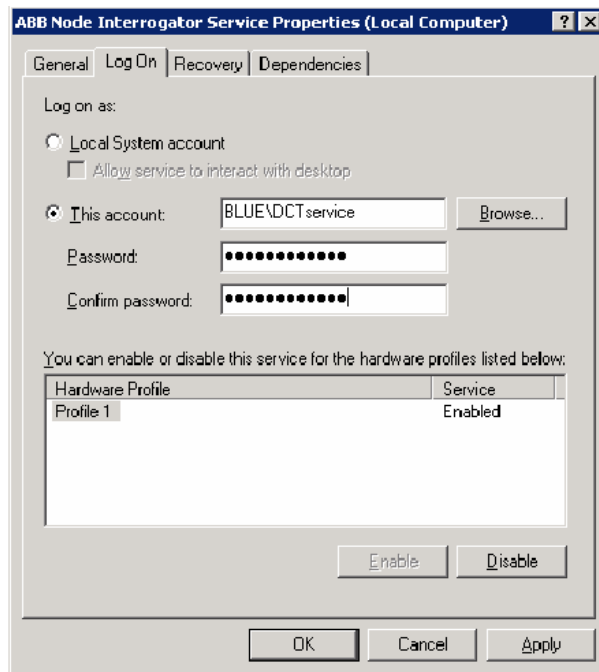

Figure 14. Modifying the ABB Node Interrogator Service
- d. Select the **Log On** tab to produce the view shown in Figure 14.
- e. Fill in the information as shown in Figure 14 and click **Apply**.